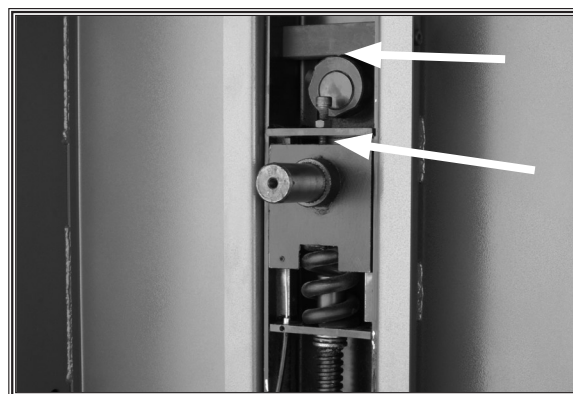

Figure 64. Tension adjustment assembly locations (top wheel removed for clarity).
4. Apply a thin coat of multi-purpose GL2 grease to the tension adjustment assembly and tension lever cam (see **Figure 64**).